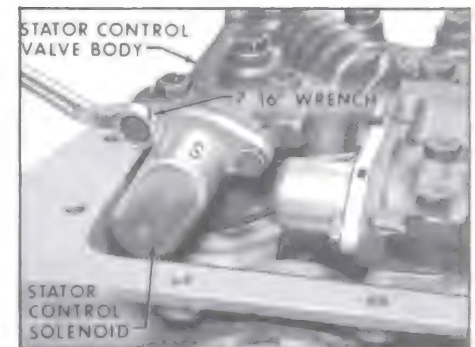

Figure 5-113
4. Remove two (2) solenoid to stator control valve body retaining bolts with 7/16" wrench. Remove stator control solenoid gasket. See Figure 5-113.